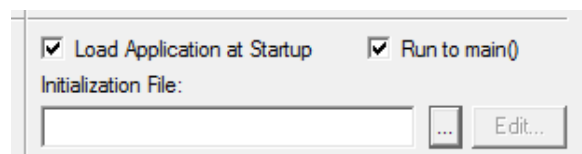

Figure 27. Load Application at Startup Settings
10. From the **Options for Target 'Demo'** dialog, select the **Load Application at Startup** checkbox, as shown in Figure 27, the so that the IDE will download the code upon connection. There is no need to select or enter an initialization file.